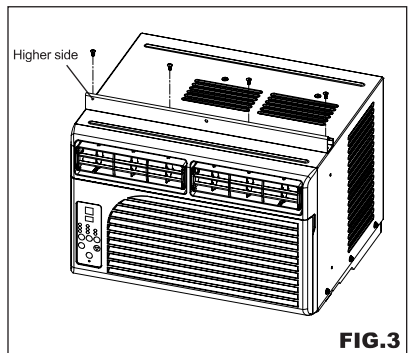

FIG. 3
- Secure the upper guide to the unit with 3/8" short screws as shown in FIG. 3.